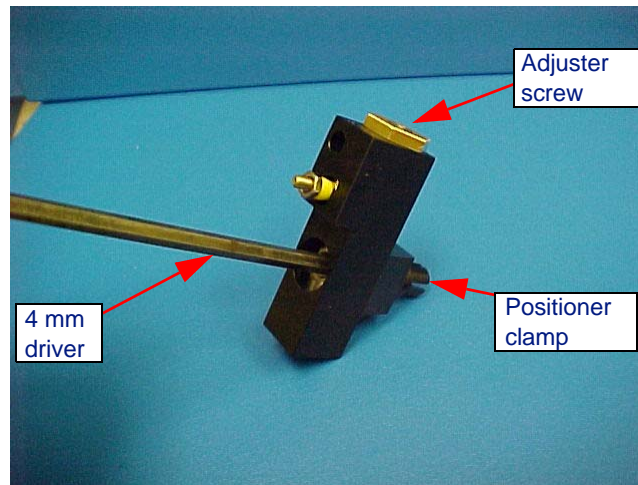

Figure A-6: Adjusting the EOS fiber positioner clamp.
4. Remove the fiber mount from the read head by inserting a 4mm hex driver into the mount and loosening the interior screw as shown in Figure A-6.